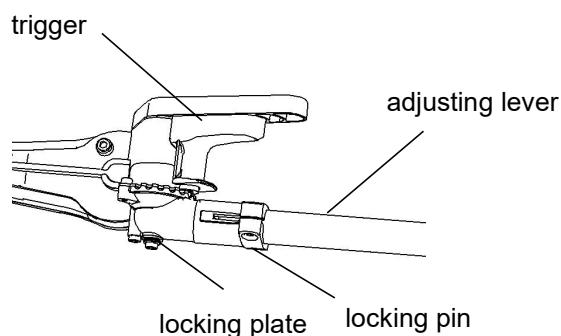

Fig 8
- To adjust the blade, squeeze the trigger and rotate the adjusting lever to the desired cutting position. After hearing a clear “click” which indicates that the locking pin is engaged in the locking plate, release the trigger (Fig 8).